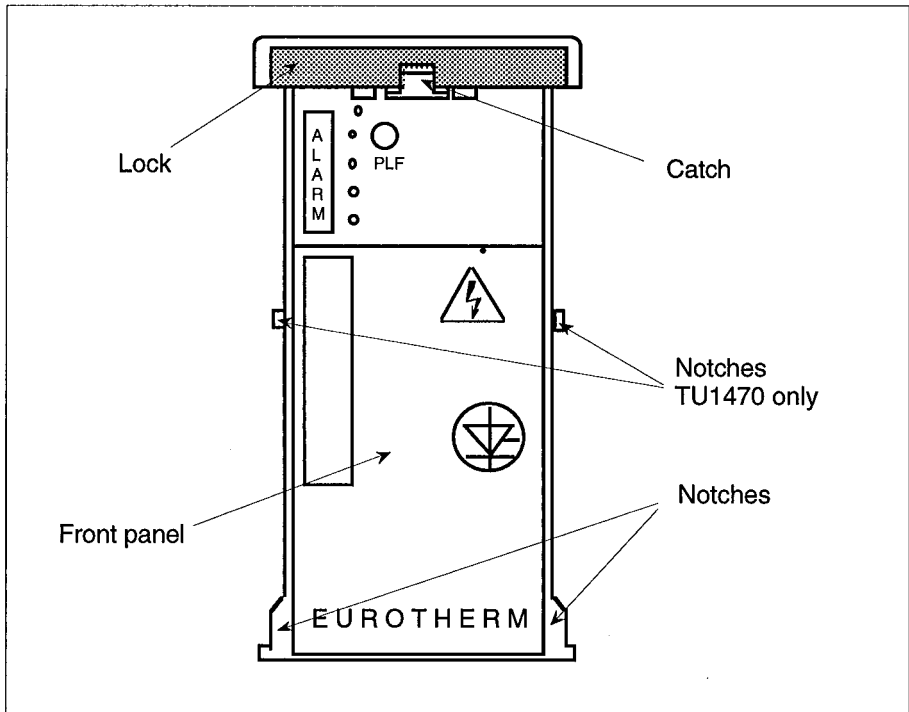

Figure 2-7 Front panel
- Insert a thin screwdriver (3,5 mm) and push the inner catch (see figure 2-7).
- Insert the notches of the front panel completely in the lateral grooves of the heatsink (see figure 2-7).
- remove the front panel (see figure 2-7)